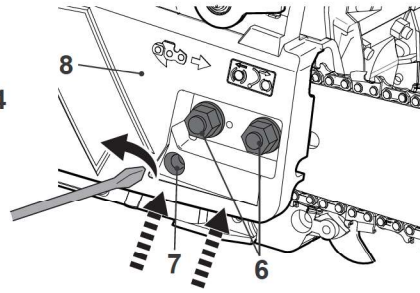

Fig. 8
- > Replace the cover in place and screw in the nuts lightly (Fig.8).